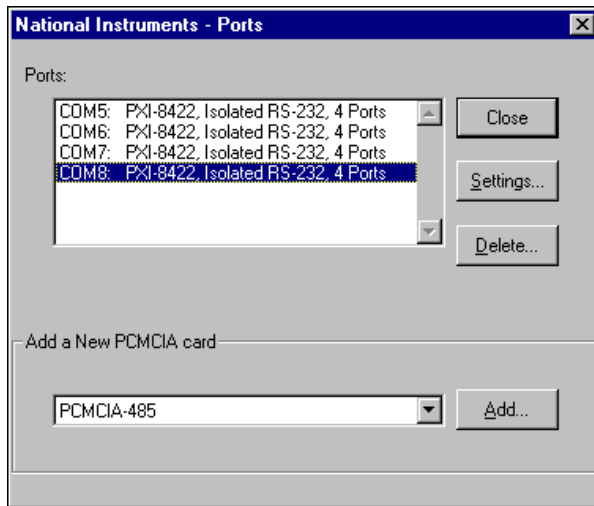

Figure 3-10. niports Configuration Utility
1. Select **Start»Settings»Control Panel** and double-click the **niports** icon. A list of installed National Instruments ports appears, as shown in Figure 3-10.